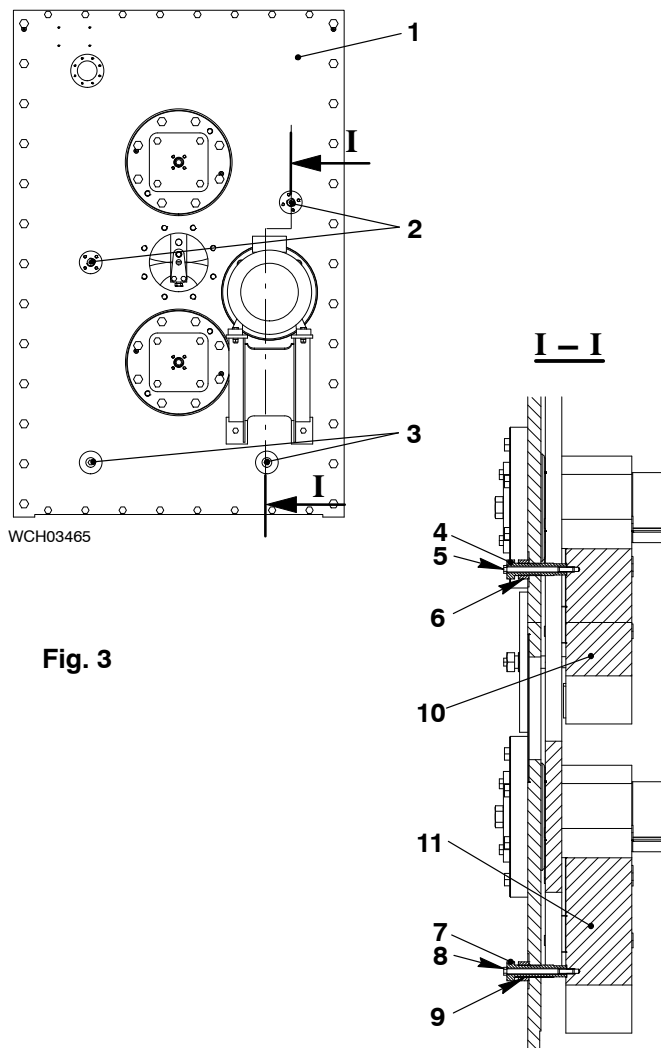

Fig. 3
- 1) Apply lubricating oil to the thread and bottom of the head of the clamping screw (4, Fig. 3) and the nut (6).
- 2) Remove the two screws (2) from the main cover (1).
- 3) Put the two clamping screws (4) and the nuts (6) in position on the upper counterweight (10).
- 4) Torque the clamping screws (4) to 60 Nm.
- 5) Torque the nut (6) to 60 Nm.
- 6) Put the the M12 bolt (5) in position through the clamping screw (4).
- 7) Torque the M12 bolt (5) to 60 Nm.